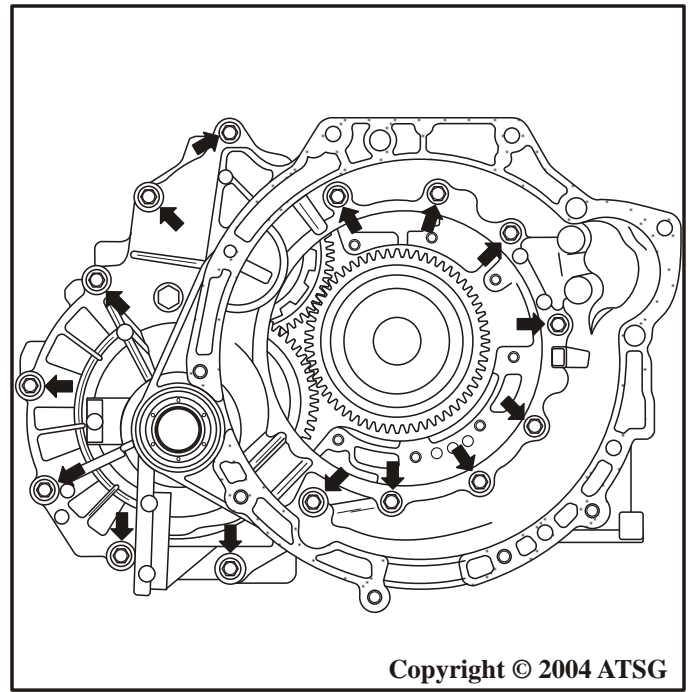
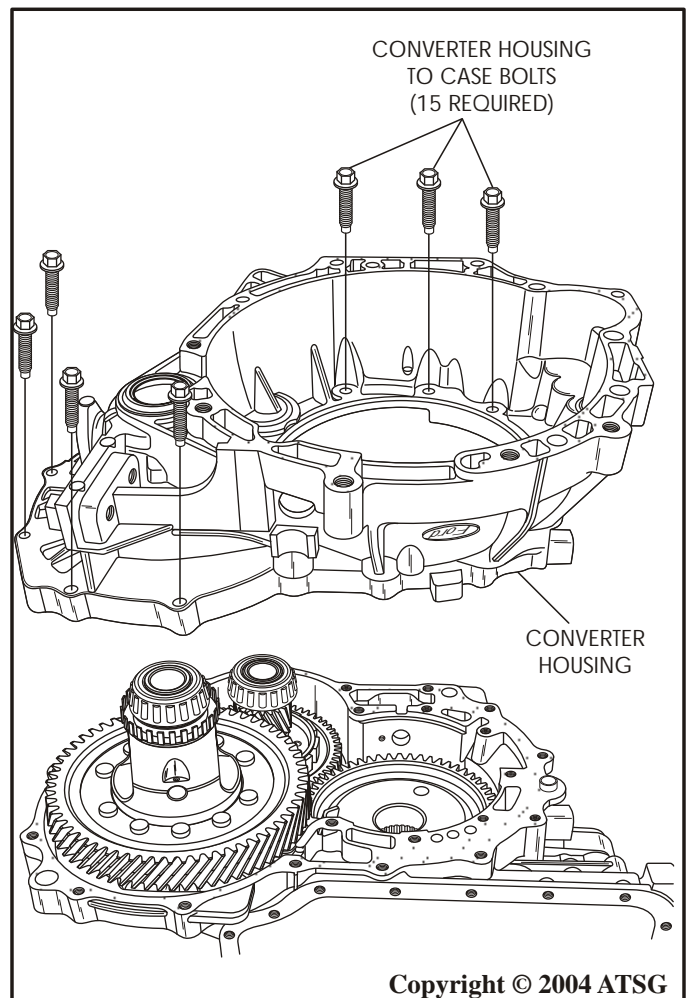

Figure 47
Figure 48
46. Install the transaxle back into the bench fixture and rotate transaxle so that the bell housing is facing up, as shown in Figure 47.
48. Remove the 15 converter housing to case bolts, as shown in Figure 47, and remove converter housing from case, as shown in Figure 48.